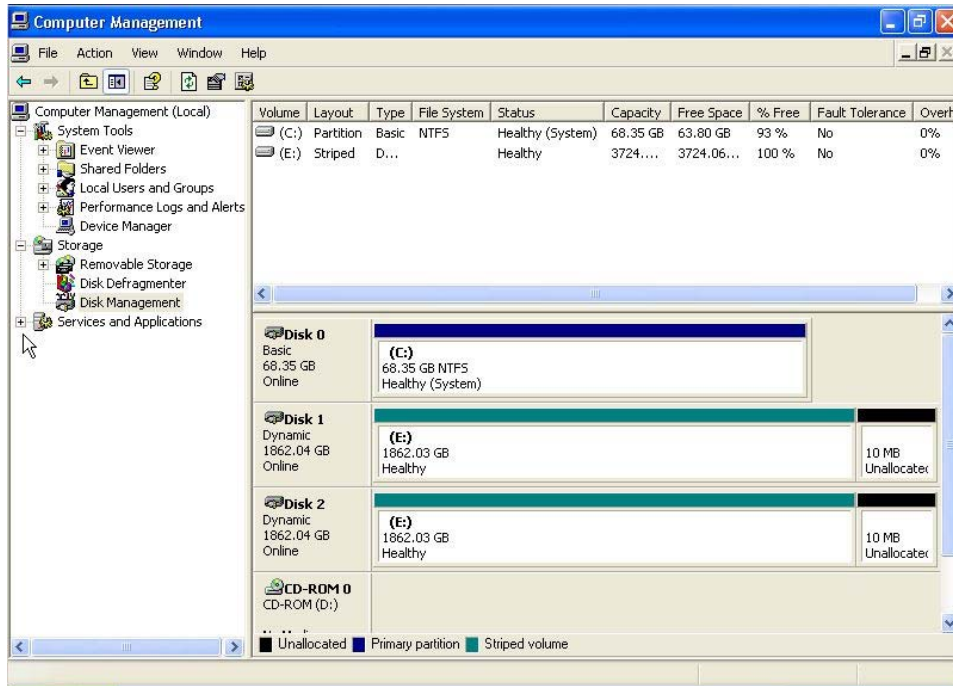

FIGURE 6-33. Computer Management Screen, Showing Formatted Disk 1 and Disk 2.
7. The *Computer Management* screen appears. It shows the settings of “New Volume (E:)” for Disk 1 and “New Volume (E:)” for Disk 2. Close the screen. See Figure 6-33.